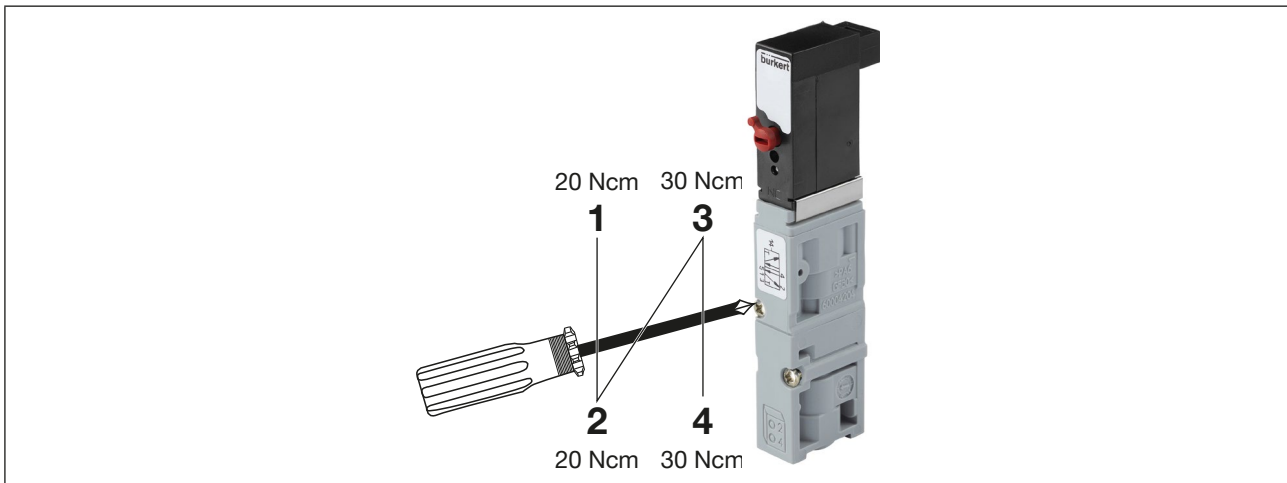

Figure 38: Tightening the screws when replacing the valve
- Tighten the fastening screws in diagonal pairs while observe the permitted tightening torque (see “Figure 38”).